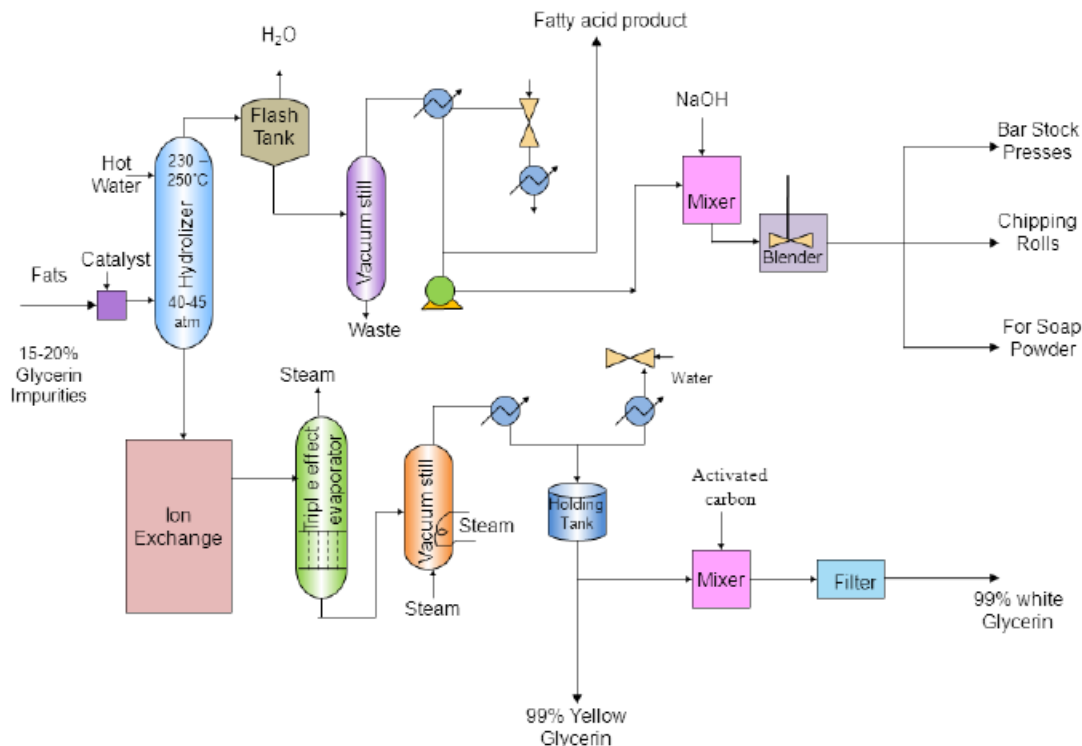

Figure 30.1 Flow sheet of manufacture of soaps, fatty acids and glycerin
30.2 Functional role of various processes (Figure 30.1)